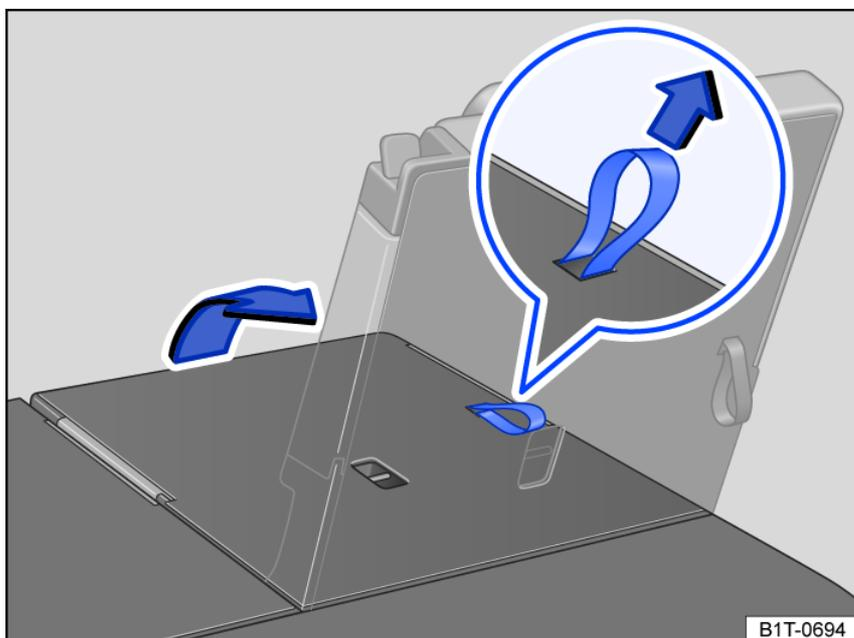

Fig. 85 Third row seat: folding the rear seat back.
- Pull on the loop on the rear seat backrest *fig. 85* to fold the rear seat backrest back. **OR:** fold the rear seat backrest back from the passenger compartment.